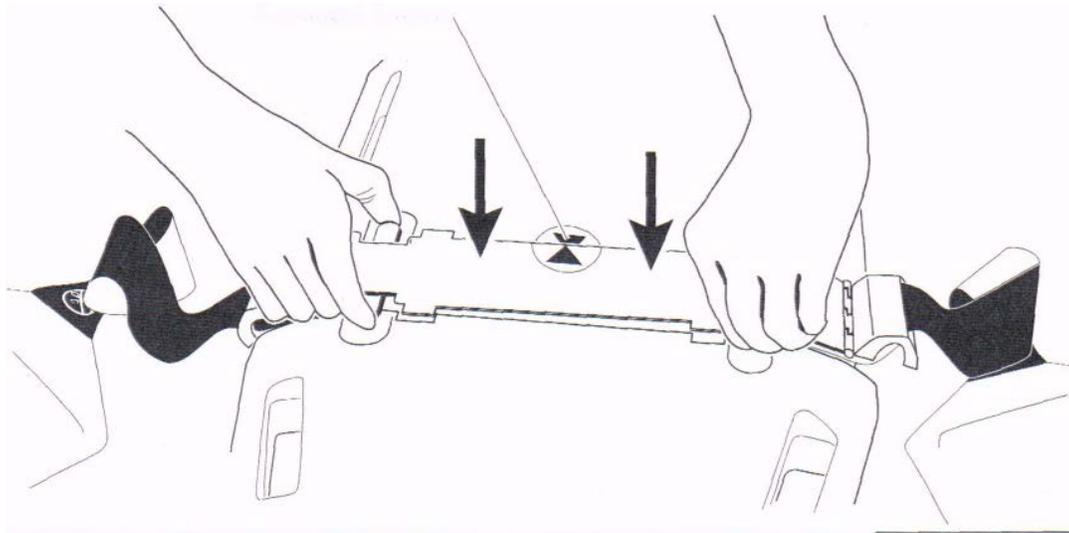

Figure 2-3 Snapping the LifeBand® Cover Plate into Place
7. Snap the LifeBand cover plate in place by fully inserting the locking tabs into the slots on the AutoPulse Platform (see Figure 2-3).